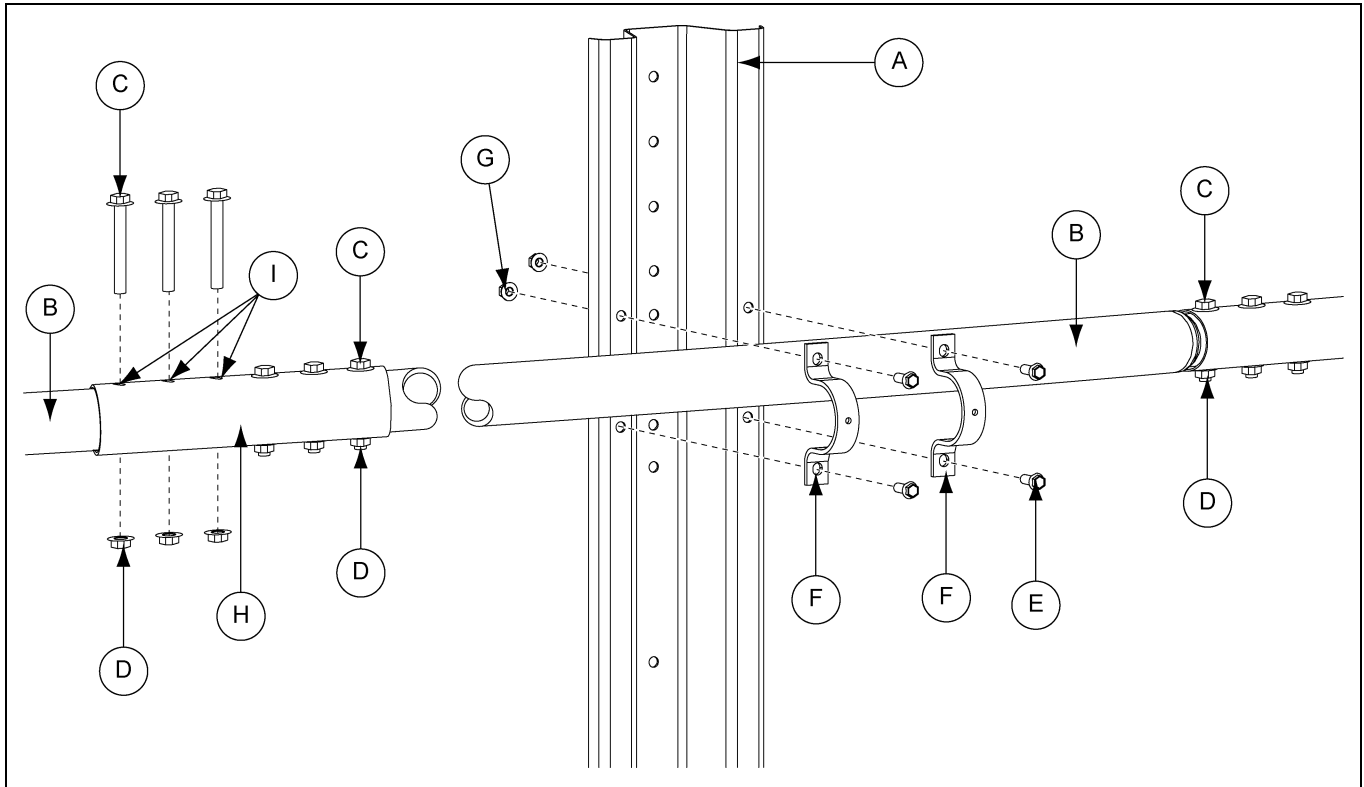

Figure 13B Exploded View of Wind Ring Installed at Upper Portion of Stiffener
5. Slide the wind ring coupling collar (H), aligning the three (3) pre-drilled holes and install flange bolts (C) and hex nuts (D). Field drill the remaining three (3) holes (I) using the wind ring coupling collar (H) as a guide or template. (See Figure 13B on Page 53.)
6. Install the remaining flange bolts (C) and hex nuts (D) and tighten all hardware to the recommended torque specifications. See bolt torque specifications on Page 34.